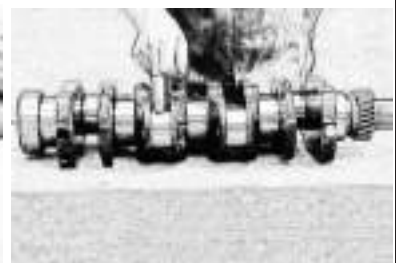

Fig3-20 Check Crankshaft, Main Bearing and Connecting-rod Bearing Shell
5.5 Check crankshaft, main bearing and connecting-rod bearing shell. Replace it if the wear of cinch marks is bigger (see Fig3-20).